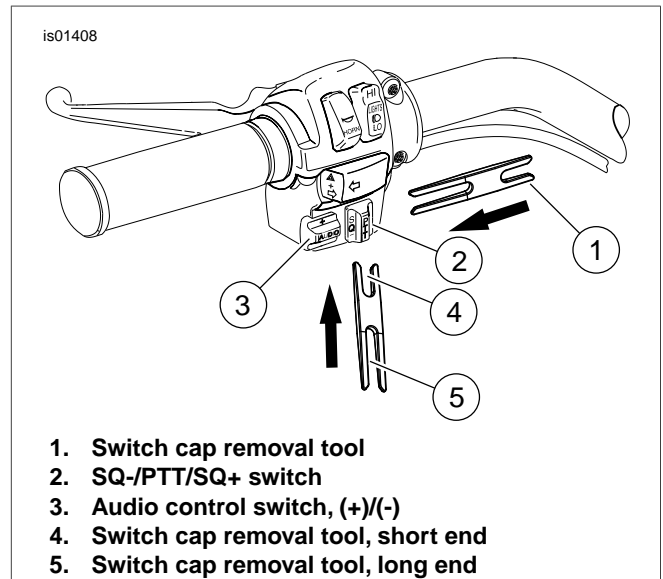

Figure 4. SQ-/PTT/SQ+ and Audio Control Switch Caps
6. See Figure 4. Use short end (4) of tool (1) to remove the SQ-/PTT/SQ+ switch cap (2). Push upwards under switch cap. The tool taper will slowly push switch cap off switch pin.
7. Use long end (5) of tool (1) to remove the audio control switch cap (3).